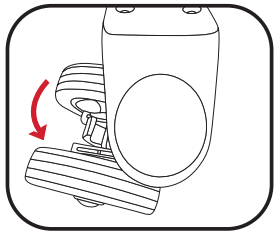

Fig 1
2. Rotate the front wheels 180° to allow access to the quick-release lever (fig. 1) and pull down the quick-release lever (fig. 2)